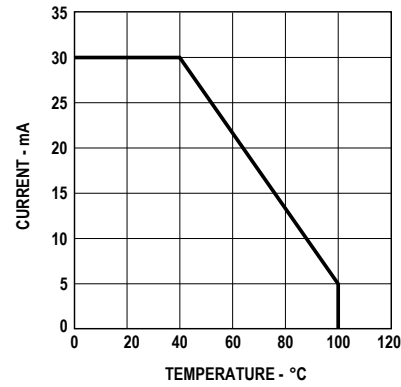

Figure 4. Maximum forward current vs. ambient temperature. Derated based on $T_{j,MAX} = 110^{\circ}C$, $R(\theta)_{JA} = 500^{\circ}C/W$.
1. Derate linearly as shown in Figure 4.